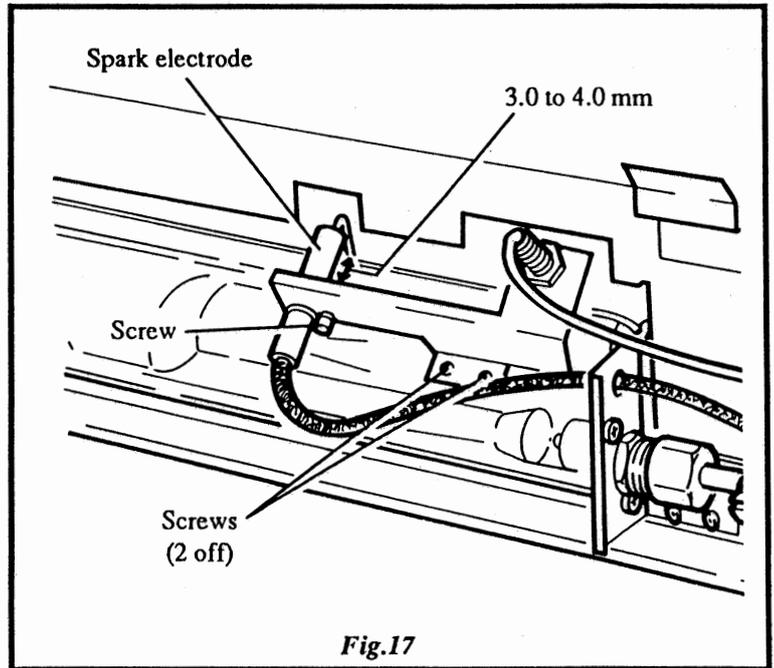

Fig.17
6. Replace the burner in reverse order and check that the spark gap between the tip of the electrode and the burner face is 3.0 to 4.0 mm, see Fig. 17. If necessary, adjustment can be made by gripping the base of the tip with one pair of pliers whilst gently bending the end of the tip with another pair. Take care not to crack the ceramic liner.
12.2 To replace the electrode - see Fig. 17.